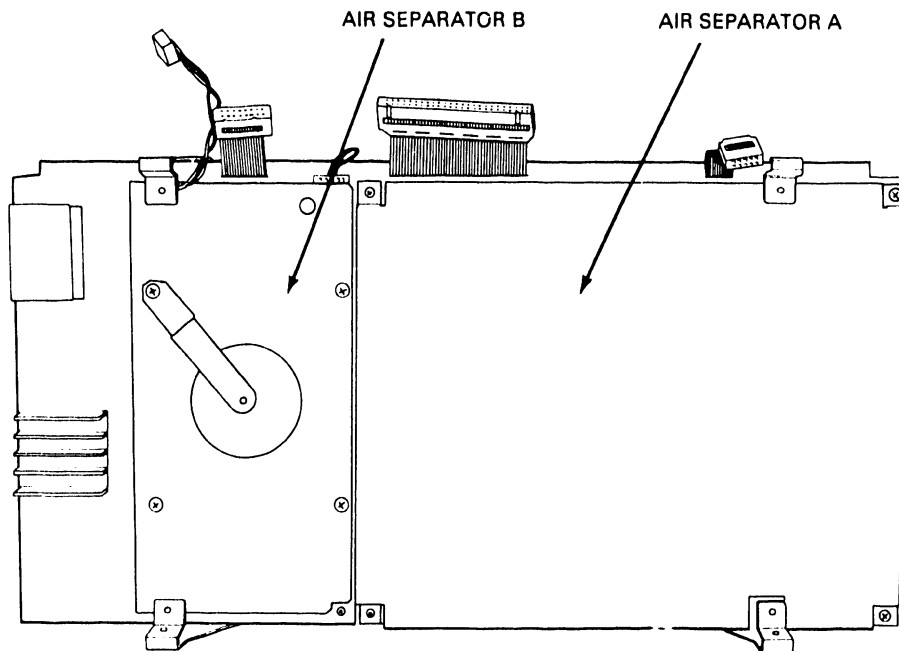

Figure 4-3 D22x7 Air Separators
4. Remove the four screws that secure the larger air separator (air separator A) to the drive unit (see Figure 4-3).